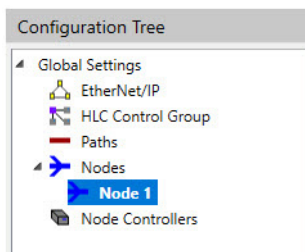

Figure 4-51: Configuration Tree Showing Node Added
*The list of nodes is expanded and displayed below **Nodes** in the Configuration Tree, see Figure 4-51 with the new node added to the list. The node is automatically numbered with the next available **Node ID**.*